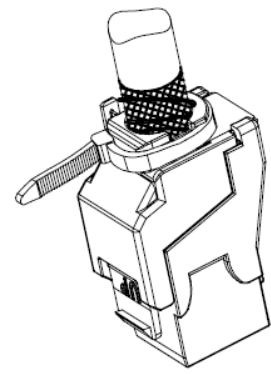

Fig. 14
- 4) Fix the cable tie to the shielding lug (Fig 14)